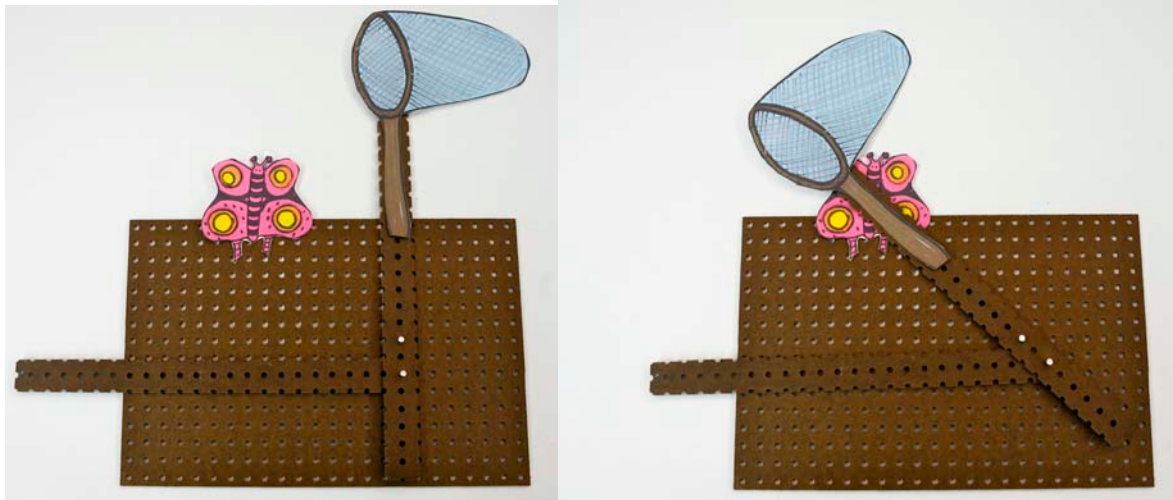

Figure 2: Pegboard model of Frustrated Butterfly Net MechAnimation with net up (left) and down (right), showing the net passing over the butterfly
2. **Making a Butterfly:** Divide the class into groups, and provide each student with pegboard materials and fasteners, and cutout butterfly and net figures. Explain that everyone will be making butterfly mechanisms. They should begin by making the same kind of mechanism as in Lesson 6: The input and output will have to go in opposite directions, so the fixed pivot will be above the input link. Tell students that to start with, they should put the fixed pivot just above the input link. Then they should attach the cutout figures: the net attaches to the top of the lever, and the butterfly attaches to the base, as in Figure 2, left. Next they should operate the input to see what happens. See Figure 2, right.